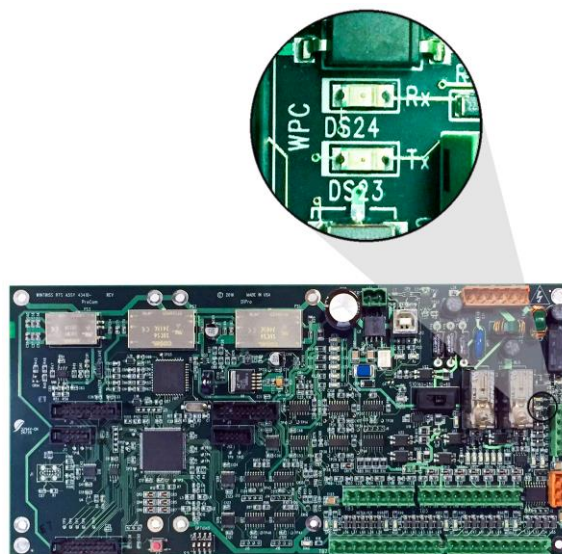

Figure 2-9. SmartPAC PRO board, Rx and Tx LEDs
2. Leaving power on, open the door of the SmartPAC PRO enclosure, and check the state of the WPC LEDS labelled Rx (DS24) and Tx (DS23) on the SmartPAC PRO board, Figure 2-9, above.